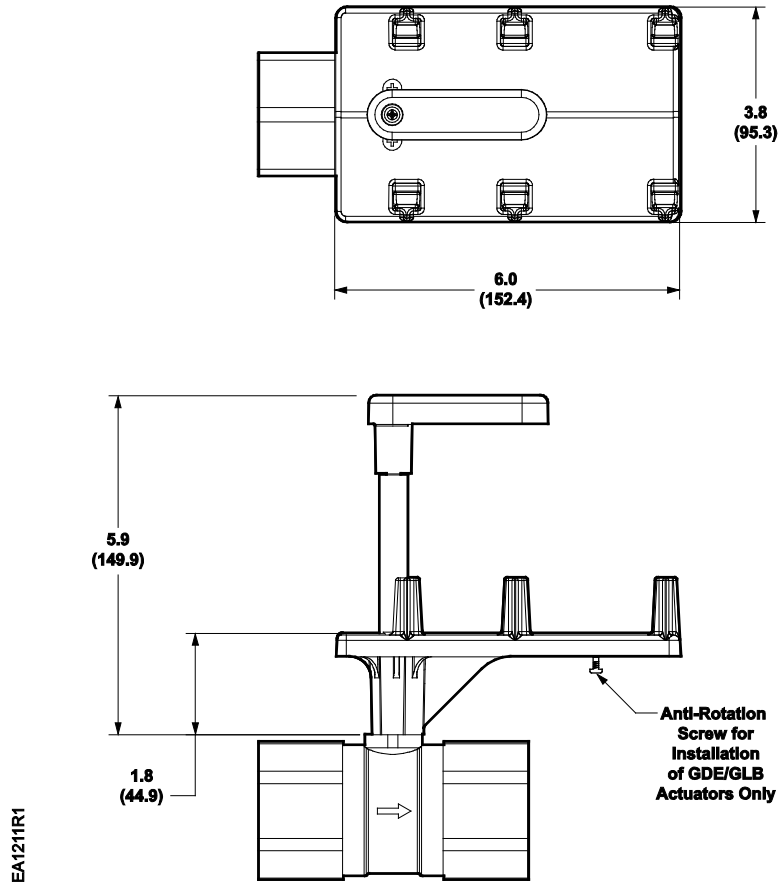
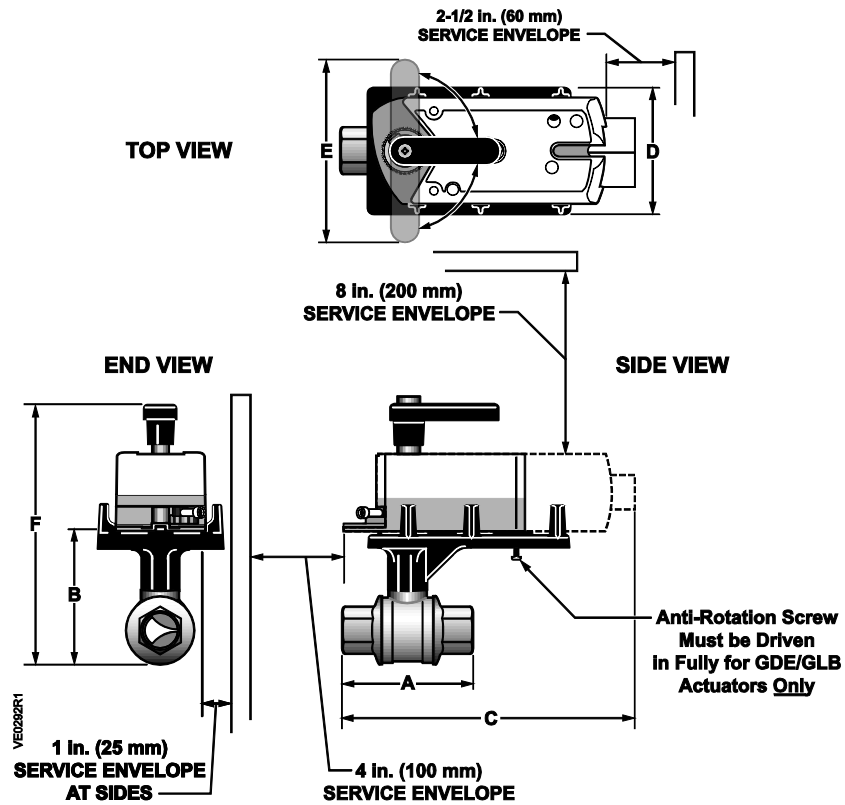

Figure 6. Ball Valve Bracket in Inches (Millimeters).
Figure 7. Two-way Ball Valve and Bracket with Actuator Dimensions in Inches (Millimeters).
6. For GDE/GLB actuators, an anti-rotation screw must be driven in fully. (See Figure 6 and Figure 7.)
**NOTE:** The GQD actuator will rest on the lowest step. The GMA actuator will rest on the second lowest step of the bracket. See Figure 6.